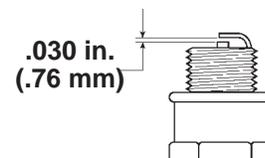

Figure 30
5. Set the gap on the new plug to 0.030 in. (0.76 mm) (Fig. 30).